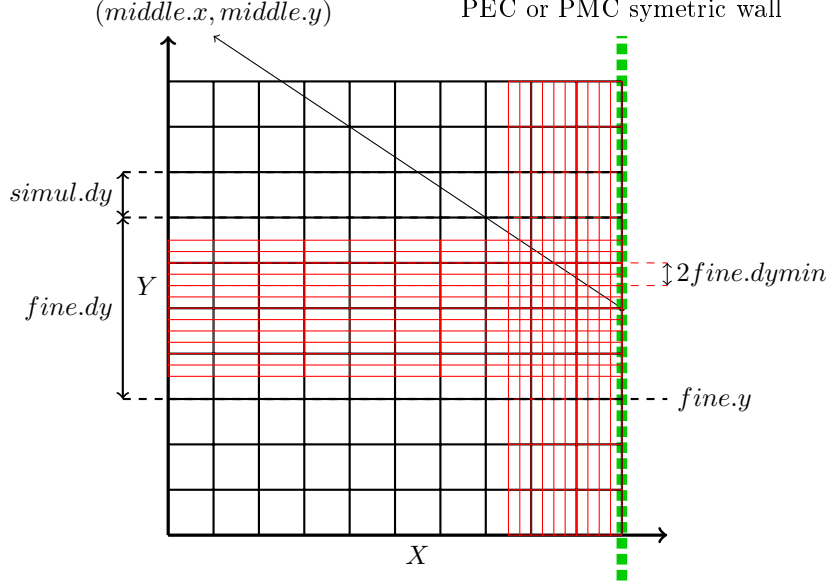

Figure 3: Coarse and variable gridding with  $\text{fine.downonly.x} = 1$  and  $\text{fine.dx} = \text{'end'}$
- $fine.downonly.x$ : When symmetric boundary conditions are used, the variable grid needs to start without a smooth transition from the coarse grid. When one the obtained grid is depicted in figure 3. It works similarly in the y and z direction.